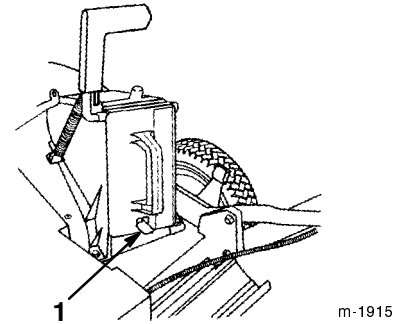

Figure 7
3. Push the plug all the way in until the spring clip on the bottom of the plug clicks into place, locking the plug securely into the discharge tunnel (Fig. 7).